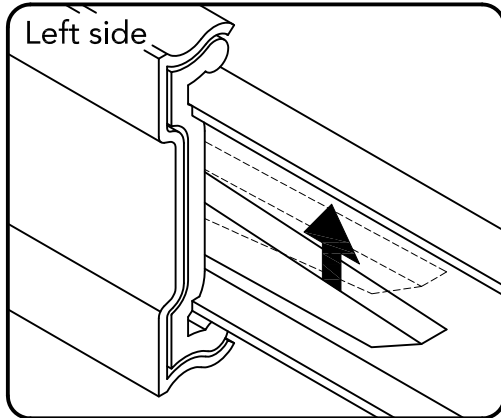

Figure 3
Remove Drawers (S) by pushing plastic lever on left side up, pushing plastic lever on right side down and pull open. (See Figures 3 and 4)